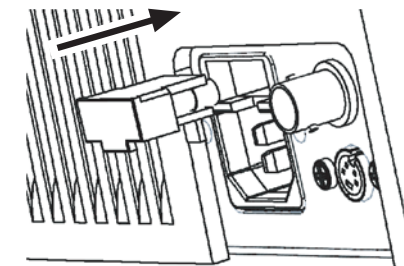

Figure 15. Replacing fuse holder
- d. Place the fuse holder back in the unit (Figure 15). Push firmly until it snaps into place.